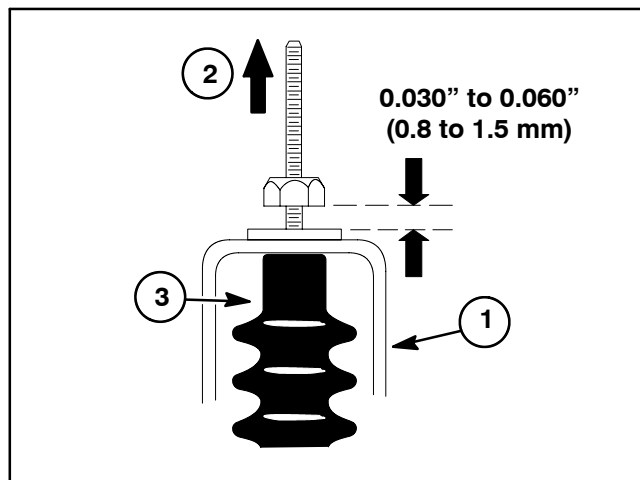

Figure 11
4. While holding the cable below the lever, tighten the lock nut on one of the shift cables to allow 0.030" to 0.060" (0.8 to 1.5 mm) freeplay in the cable (Fig. 11).
6. Pull up on each shift cable to make sure that freeplay is correct. If necessary, readjust nut (Fig. 11).